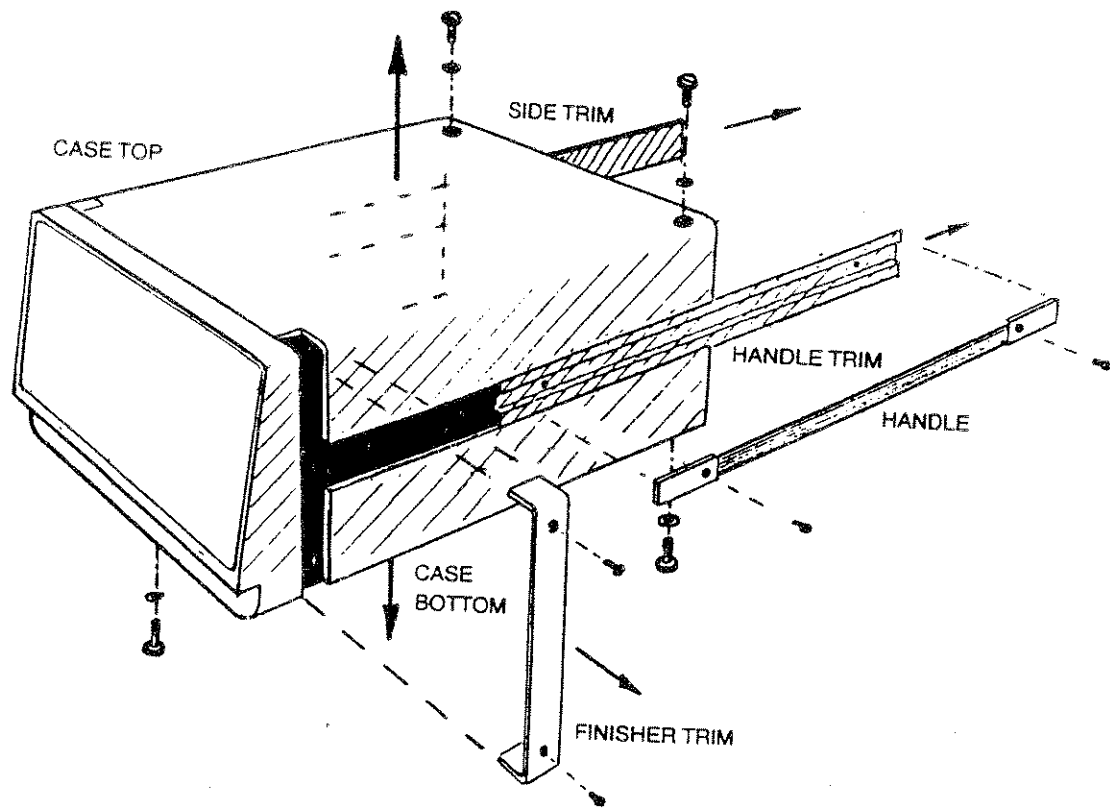

Fig 2.12 Removal of trims, handle, and top and bottom cases.
1. As shown in Fig 2.12, remove the following items from the unit: